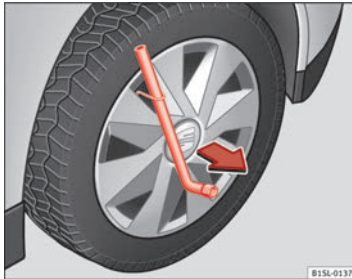

Fig. 139 Removing the full hubcap
- Insert the wheel brace onto the wire hook ⇒ Fig. 139 and pull the hub cap in the direction shown by the arrow.